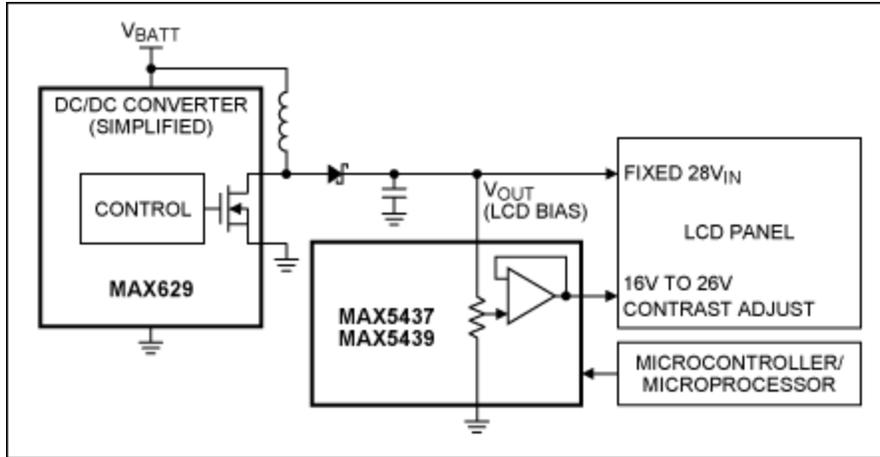

Figure 1. Simplified LCD contrast control circuit with buffer features the MAX5437/MAX5439 digital pots.
**Figure 1** shows a simple way to create a 30V adjustable voltage. The control voltages (2.7V to 5V) of the MAX5436–MAX5439 digital pots are independent of the pot voltages (+10V to +30V and -28V to -10V, or  $\pm 5V$  to  $\pm 15V$ ).
In Figure 1 the pot's 128 taps are distributed between ground and +26V with a LSB step of 0.2V.